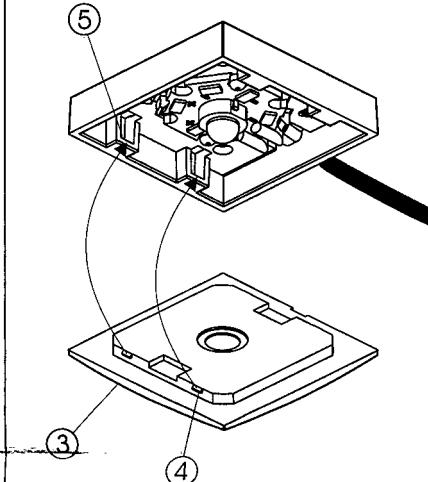

Fig. 3
- Fissare lo schermo (3) al supporto facendo attenzione che i ganci (4) si incastri nelle apposite sedi (5) del supporto (fig. 3).
- The product respects the directives of the norm VDE0710 paragraph 14 (VV), if the mounting instructions detailed in this sheet are respected.
- Fix the support (1) to the surface of installation using the screws (2) in wrapping (picture nr. 2).
- Fix the screen (3) to the support paying attention that the hooks (4) insert in the special support's centers (5) (picture nr. 3).
- Den Schirm (3) an der Halterung befestigen, dabei darauf achten, daß die Haken (4) in den bestimmten Sitzern (5) der Halterung sich ineinanderfügen (Abb. 3).
- Fijar la pantalla (3) al soporte haciendo atención que los ganchos (4) se encajen en las adecuadas sedes (5) del soporte (fig. 3).